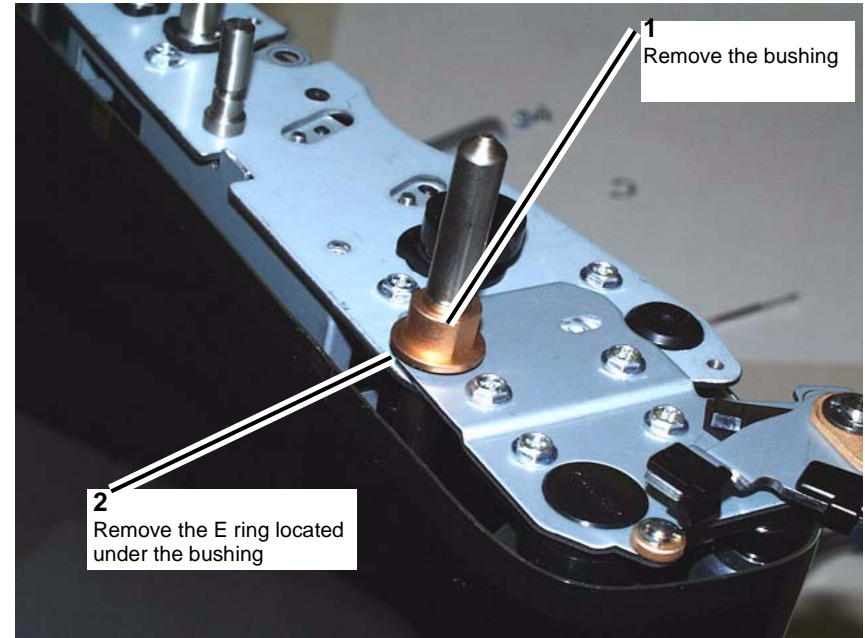

Figure 8 Removing the bushing and E-ring
12. Remove the bushing and E-ring. (Figure 8)